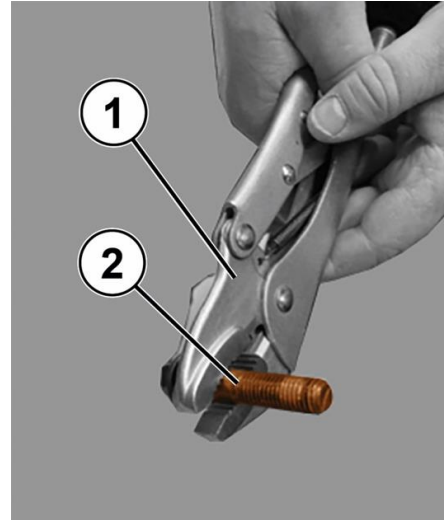

Figure 3 – Adjusting Pliers
5. Adjust the clamping force of the grip pliers (1) with the help of an M12 steel screw (2). The tightening must be such that the pliers cannot rotate on the screw (Figure 3).